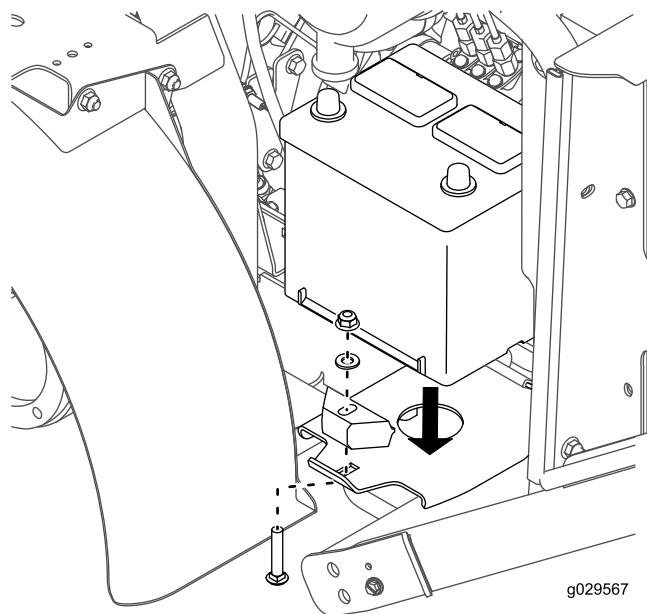

Figure 10
8. Loosely mount the battery to the battery platform with the carriage bolt, hold-down, washer, and nut that you previously removed (Figure 10).